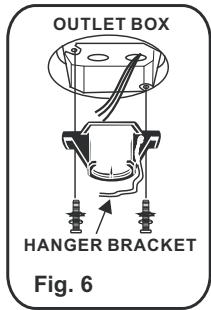

Fig. 6
Step 1. Secure the hanger bracket to the ceiling outlet box using screws and washers included with mounting hardware.(Fig.6)